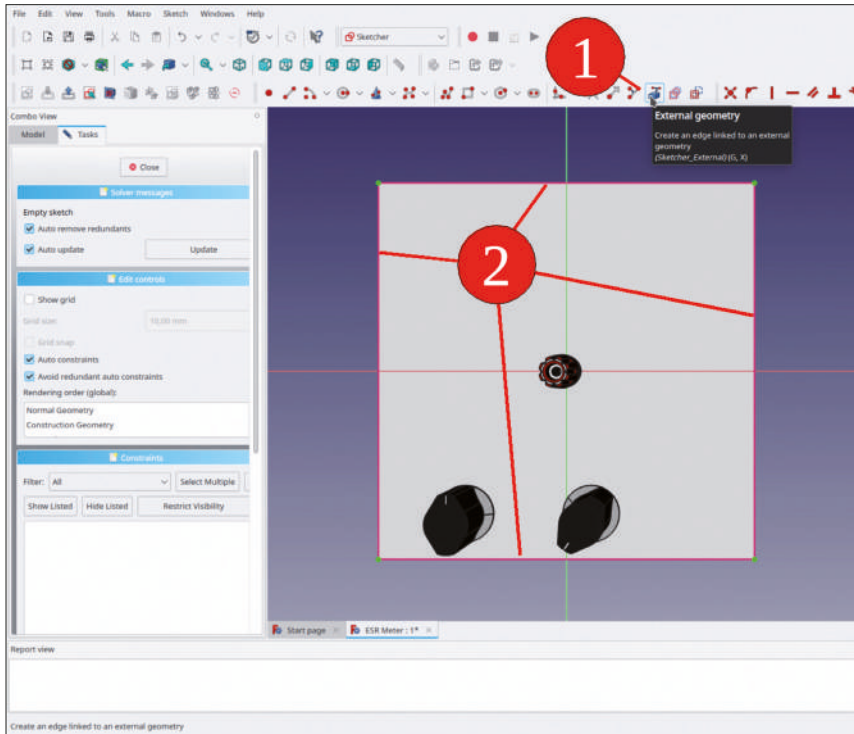

Figure 7-24
7. Click the 'External geometry' tool button and mark all 4 lines of the outer front panel contour (Figure 7-24).